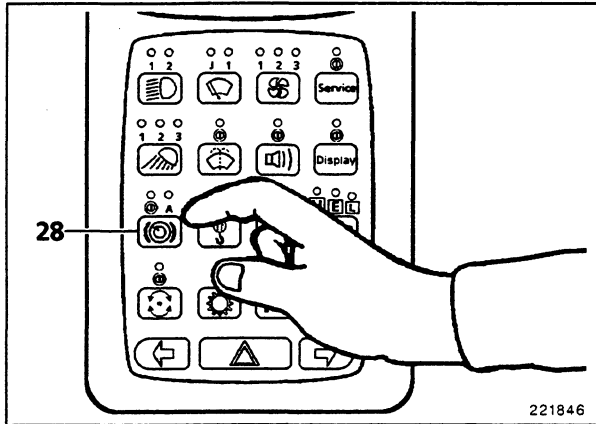

Fig. 1
- Key (28, Fig. 1) not depressed, LEDs extinguished:
- Depress key (28, Fig. 1) until the LEDs above the key are extinguished. The holding brake is released and the superstructure is free to slew.